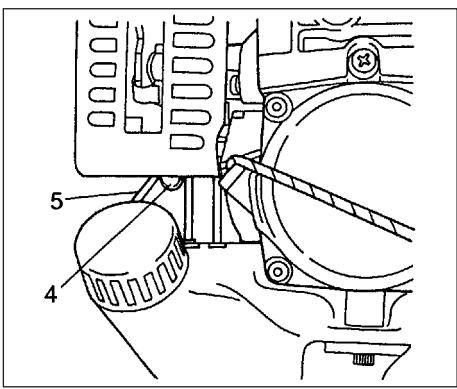

Fig. 2-2C
\* Push priming bulb (4) several times so that fuel flows through return pipe (5) (If so equipped)(Fig. 2-2C)
2. With the safety trigger (2) pressed (if so equipped), pull throttle trigger and push throttle lock (3), then slowly release the throttle trigger first, then the safety trigger. This will lock the throttle in starting position.
3. Set choke lever to CLOSED position (4).